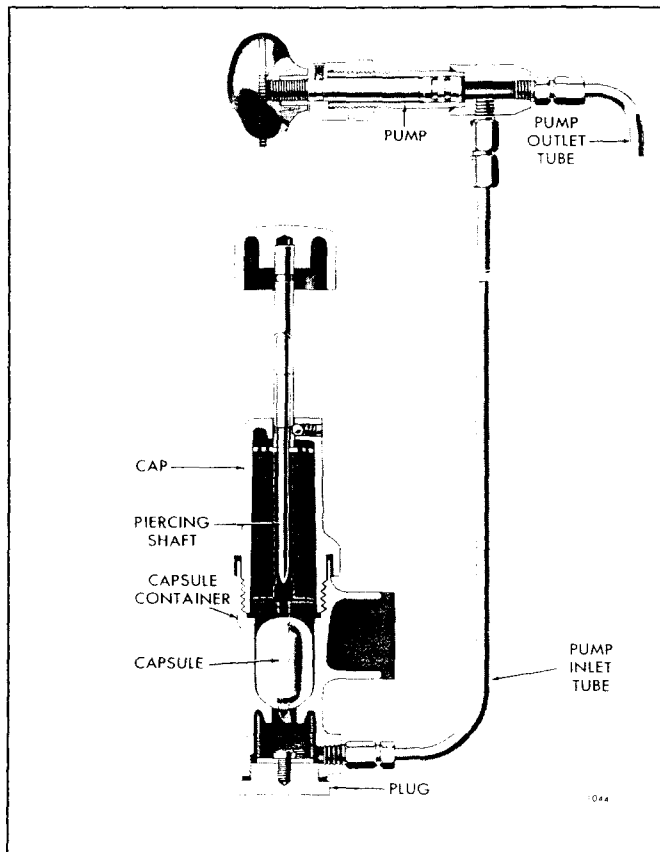

Fig. 2 - Fluid Starting Aid
The fluid starting aid is designed to inject a highly volatile fluid into the air intake system to assist ignition of the fuel at low ambient temperatures. It consists essentially of a pump and nozzle for injecting the fluid into the air intake and a suitable container for the fluid (Fig. 2). The fluid is contained in suitable capsules to facilitate handling.
1. Refer to Fig. 2 and remove the cap from the capsule container. Insert a fluid capsule in the container.
The principal parts of the starting aid pump are the body, plunger and the spring-loaded ball type inlet and outlet check valves (Fig. 2). The pump body is threaded externally at one end for mounting purposes. One end of the plunger is threaded into the operating knob. Two seal rings of oil resistant material are located in grooves at the other end of the plunger. The inlet check valve, which opens on the suction stroke of the plunger and seats under pressure, is located in the side opening of the pump body. The outlet check valve, which seats under suction and opens under pressure, is installed in the end opening of the pump body. The check valves are identified by the number "1/2" stamped on the inlet valve and the number "30" on the outlet valve. An arrow indicating the direction of flow is also stamped on each check valve.